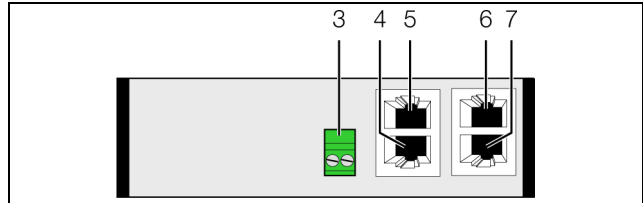

Fig. 9: Rear of the CAN bus unit
- Connect the 24 V output (direct connection) of the power supply unit with the corresponding connection on the CAN bus unit (fig. 9, item 3).
The above designations "left" and "right" apply when the device is viewed from the rear (fig. 9).
- Connect one of the following components to the appropriate connection (fig. 9, item 4).
■ If necessary, connect another component to the second, free interface of the CAN bus unit (fig. 9, item 5).
■ Use a CAN bus connection cable to connect the CAN bus unit to a CAN bus interface on the CMC III Processing Unit or the neighbouring component on the CAN bus (fig. 9, item 6).